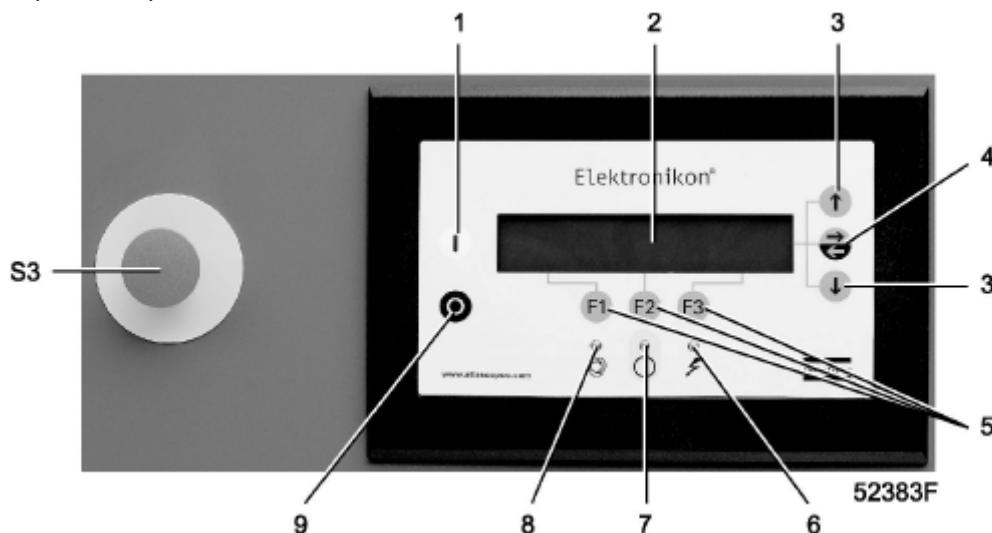

FIG. 3.2.2. Compressor Control Panel
5. Switch on the voltage and check that voltage on LED (6) lights up (FIG 3.2.2).